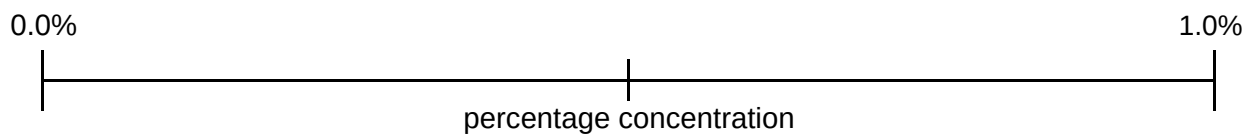

Fig. 1.3
- (vi)** Complete Fig. 1.3 to show: